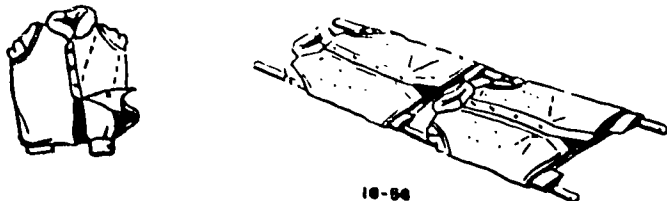

Figure 1-9. Pole and jacket litter.
b. Pole and jacket litter. Illustrated in figure 1-9 is an example of how you can use two or three shirts or field jackets to make a pole and jacket litter. Button up the jackets and turn them inside out so that the lining is